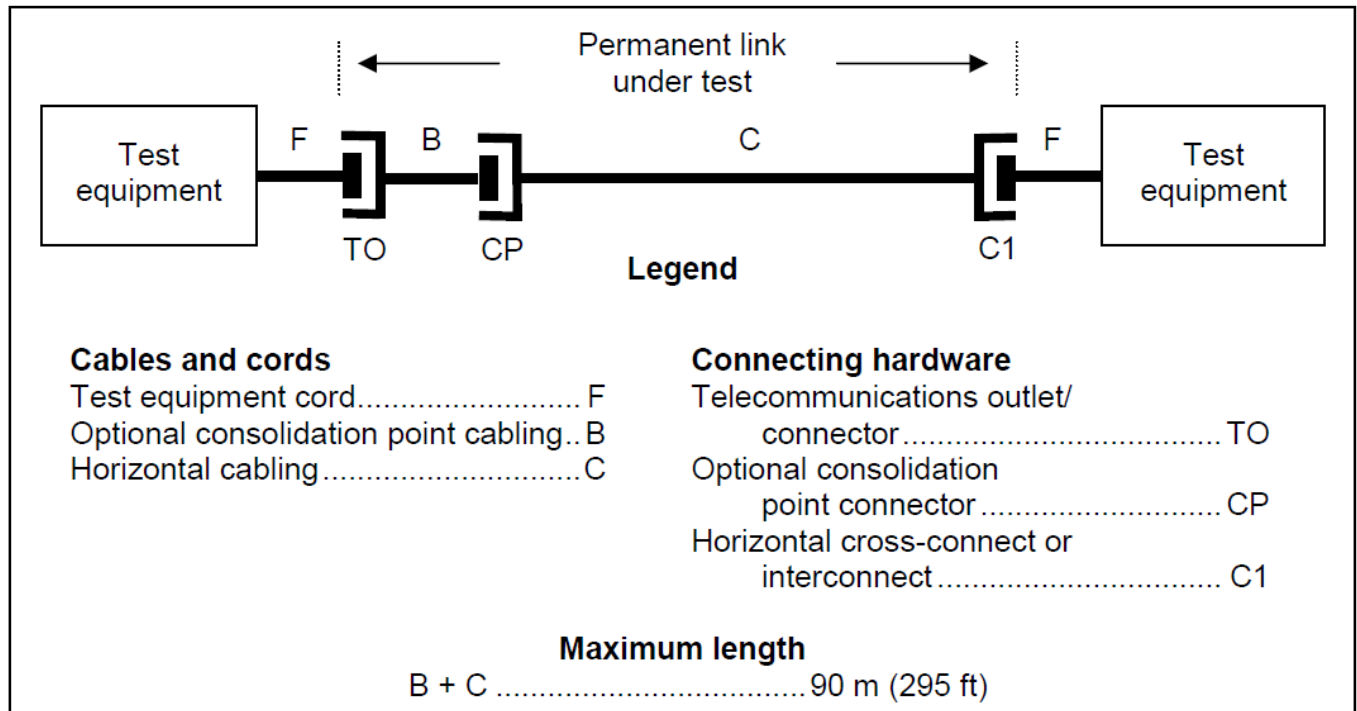

Figure 4: Permanent Link test configuration
- Install the tester and the remote unit on both sides of the Permanent Link as shown in Fig.4